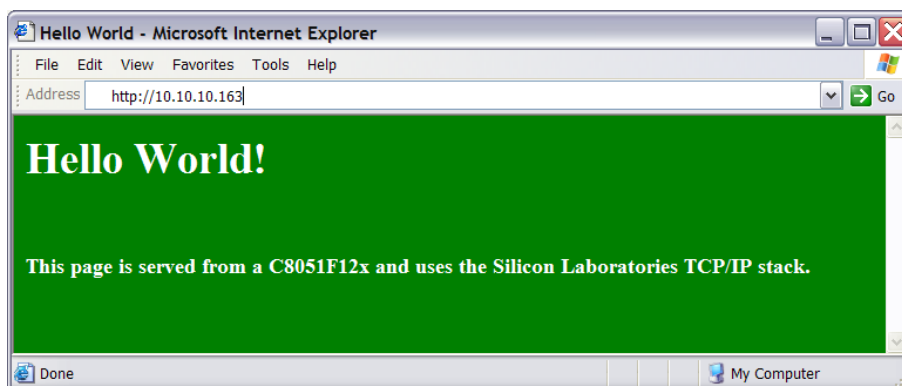

Figure 13. Embedded Web Server
2. Type in the IP address of the embedded system and press Enter. A web page stored inside the MCU should be displayed on the screen as shown in Figure 13.